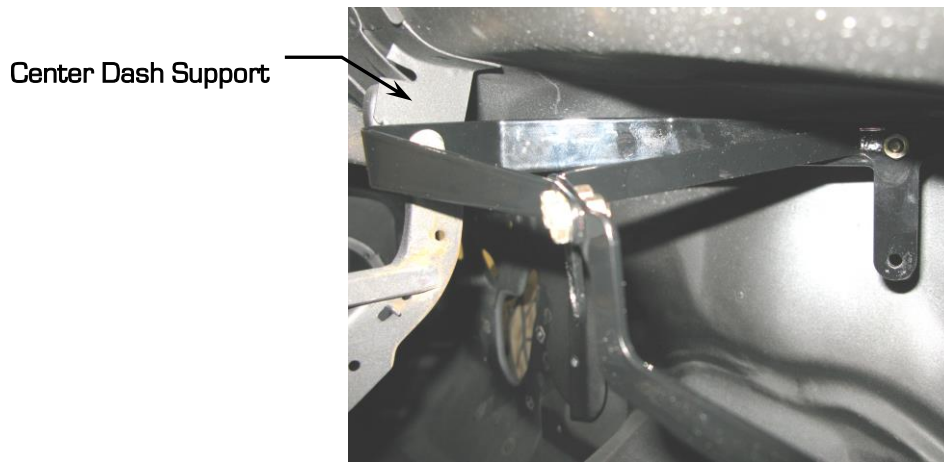

Figure 2 - Center Dash Brace Attachment
3. Install the bracket in the car. Locate the upper mounting hole on the center dash brace. Install a 1/4" - 20 x 1/2" Hex Head Bolt and a 1/4" - 20 Nylock nut. Leave this bolt loose at this time. Refer to Figure 2 below.